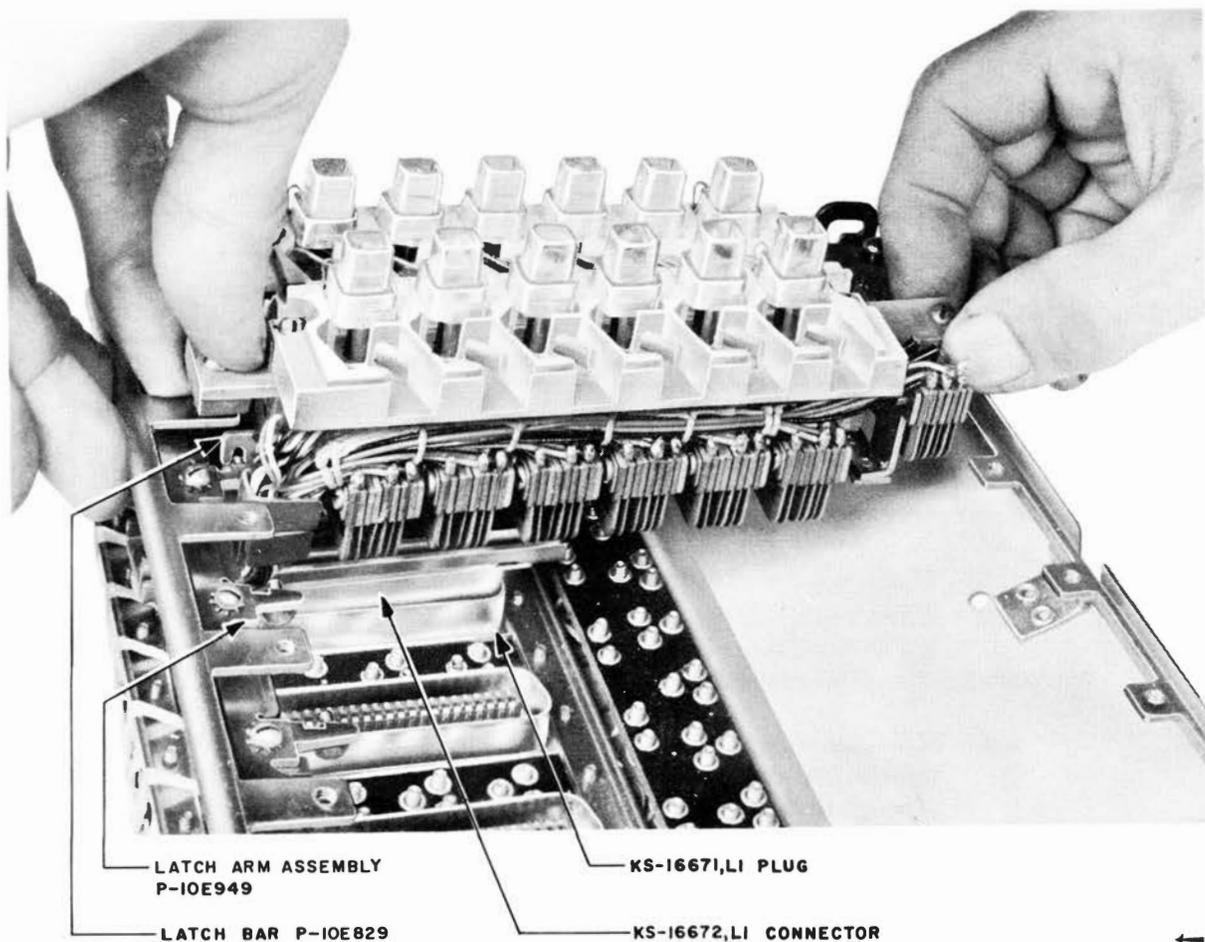

Fig. 11 – 601-Type Telephone Set Showing Replacement of Key
3. Grasp both ends of key and pull up to disengage connector from the plug (Fig. 11).
1. Hold key by both ends of frame (Fig. 11).